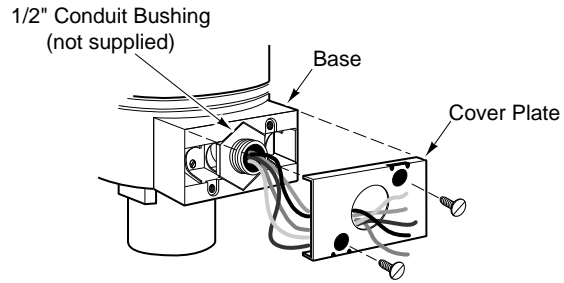
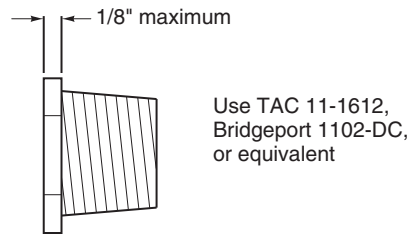

Figure-11 Conduit Bushing and Cover Plate Installation.
Figure-12 1/2" Conduit Bushing.
- Slip the leads through a standard 1/2" conduit bushing (not supplied) and the knockout hole in the cover plate. Refer to Figure-11 and Figure-12 .
*Note:* As shown in Figure-11 , the hole in the cover plate of the actuator conduit housing is sized to accept both British standard M20 (20 mm) conduit connectors and 20 mm-to-PG16 adaptors for use with DIN PG16 connectors. (Follow the steps for installing the conduit box to the actuator.)